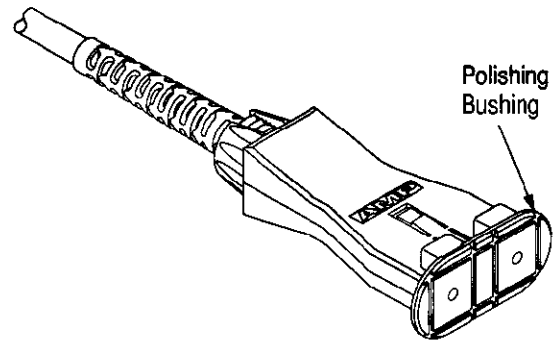

Figure 14
1. Put the polishing bushing (part of the curing assembly kit) on the curing fixture. See Figure 14.